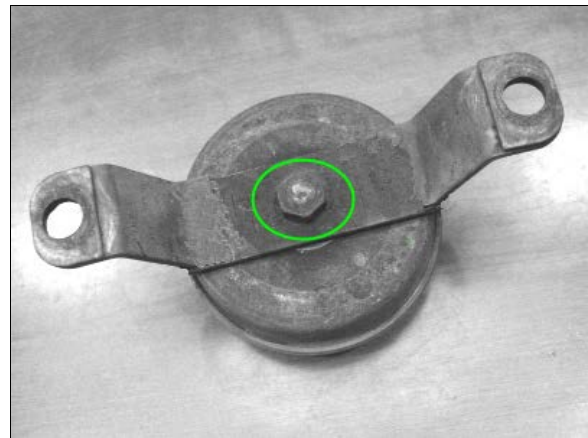

Figure 2
- 2) Remove the hubodometer from the support (hexagonal nut at the back of the unit in Figure 2).